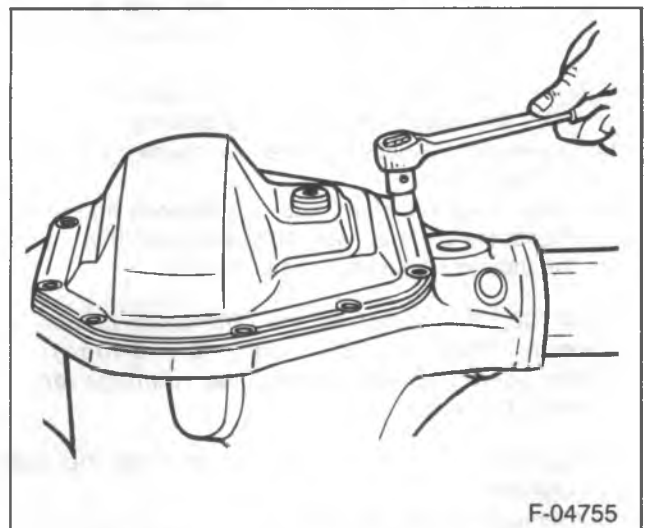

Figure 82—Installing the Axle Cover
3. Axle cover (14) to the housing (figure 82).